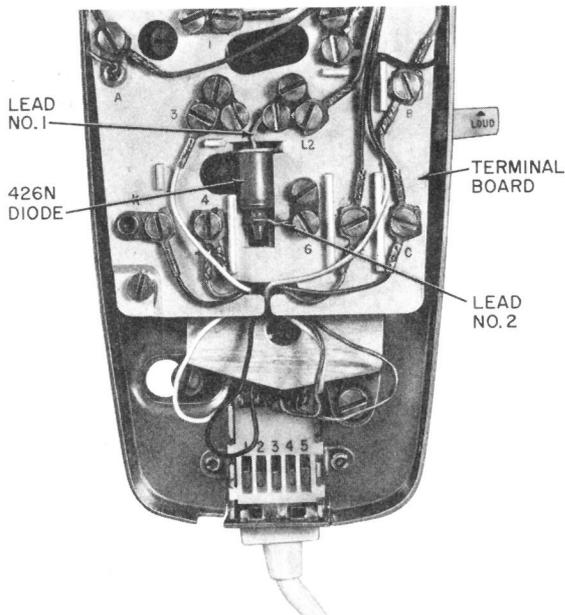

Fig. 16—Typical Installation of 426N Diode in Both AC1 and AD1 Bases
3.16 A 426N diode can be used with the AC1 or AD1 base assembly when connecting for a 4-party full selective or 8-party semiselective ringing. The two leads from the diode are designated No. 1 and No. 2. Lead No. 1 extends from the flanged (gold) base of the diode; lead No. 2 extends from the housing tip of the diode. Place the diode in the opening provided in the terminal board (Fig. 16). Dress the leads to the appropriate terminal board terminals, refer to Table E for connections.